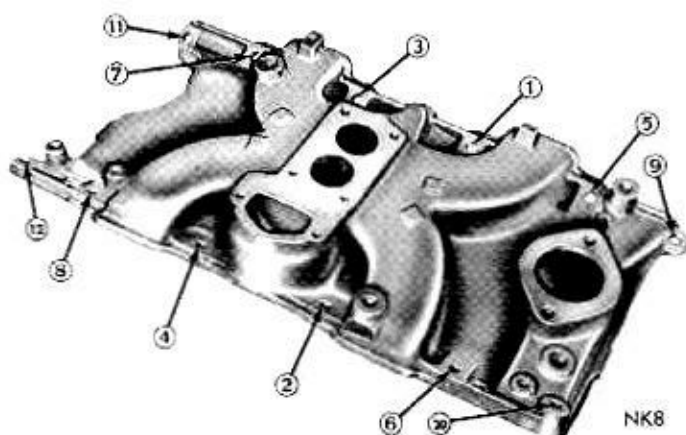

Fig. 6—Intake Manifold Tightening Sequence
(8) Coat intake manifold side gaskets lightly with number 1057794 sealer or equivalent and end gaskets with 1316241 sealer or equivalent. Install intake manifold gaskets with the bead down and end seals locked in the tangs of head gasket. Add a drop of sealer in the "V" notches at ends of side seals after installation.
(9) Position intake manifold on engine and install the twelve attaching cap screws "Finger Tight." Tighten cap screws one through four to 25 foot-pounds and tighten remaining cap screws to 25 foot-pounds, in the tightening sequence shown in Figure 6, then retighten cap screws one through four to 35 foot-pounds and follow by retightening the remaining cap screws to 35 foot-pounds in sequence shown.
(10) Install exhaust manifolds with new gaskets, the extended shield is used on left side, tighten to 30 foot-pounds.
(11) Adjust spark plugs to .035 inch gap and install the plugs tightening to 30 foot-pounds.
(12) Install coil wires, heat indicator sending unit wire, heater hoses and by-pass hose.
(13) Install vacuum control hose between carburetor and distributor.
(14) Install accelerator linkage and adjust as necessary.
(15) Install distributor cap and wires.
(16) Install fuel line, alternator and drive belt. Tighten alternator mounting bolt to 30 foot-pounds and adjusting strap bolt to 200 inch-pounds. See Cooling Section on adjusting belt tension.
(17) Place new cylinder head cover gaskets in position and install cylinder head covers. Tighten to 40 inch-pounds.
(18) Install closed crankcase ventilation system and evaporative control system (if so equipped).
(19) Fill cooling system and install battery ground cable.